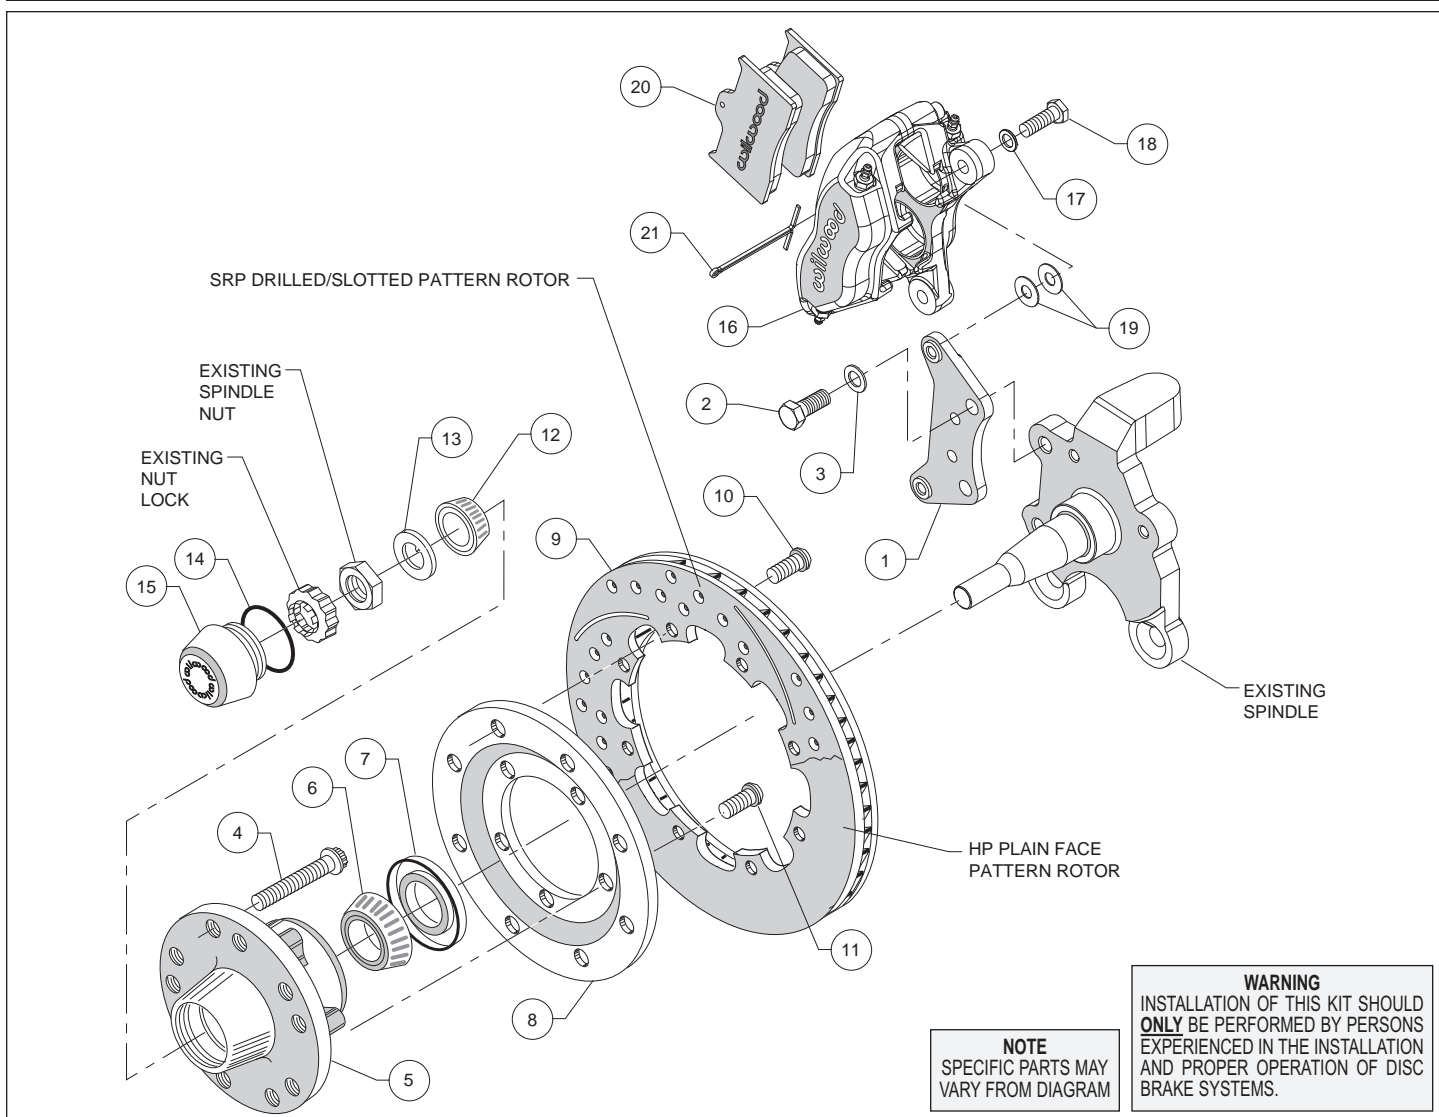
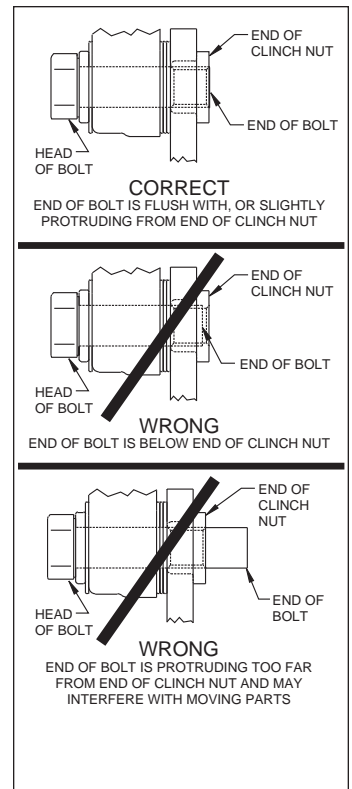

Figure 1. Typical Installation Configuration
Figure 3. Clinch Nut Engagement Diagram
**Assembly Instructions** (numbers in parenthesis refer to the parts list on the preceding page, and Figure 1): **CAUTION:** All mounting bolts must fully engage insert nuts. Be sure to check that all bolts are either flush or protruding through flanged side of clinch nut after shimming, Figure 3.
- Align caliper mounting bracket (1) with the corresponding holes, to the face of the spindle and attach using bolts (2) and washers (3), as shown in Figure 1 and Photo 1. Temporarily tighten the mounting bolts. Ensure that the flanged heads of the clinch nuts in the bracket are facing outboard, Photo 1. **NOTE:** The bracket must fit squarely against the mounting points on the spindle. Inspect for interference from casting irregularities, machining ridges, burrs, etc. Remove bolts one at a time, apply red Loctite® 271 to threads, and torque to 77 ft-lb.
- Orient the rotor (9) and the rotor adapter (8) as shown in Figure 1 and Photo 4. Attach the rotor to the adapter using bolts (10). Using an alternating sequence, apply red *Loctite*® 271 to the threads, and torque to 25 ft-lb.
- Mount the adapter/rotor assembly (8/9) to the hub (5) using bolts (11), as shown in Figure 1 and Photo 5. Using an alternating sequence, apply red *Loctite*® 271 to the threads, and torque to 45 ft-lb.
- Pack the small outer bearing cone (12) with high temperature disc brake bearing grease and install into hub (5). Slide the hub/rotor assembly onto the spindle. Secure using spindle washer (13) and OEM spindle nut, Photo 6. Adjust bearings per OEM specifications. Install saved OEM nut lock (if any) and a new cotter pin (not included).
- Screw dust cap (15) into hub (5), Photo 7. Friction created by the o-ring (14) on the dust cap keeps it from unscrewing. **NOTE:** The O.D. of the existing OEM spindle washer may be larger than the I.D. of the dust cap not allowing it to seat against the hub face. Therefore, use the spindle washer (13) supplied with the kit instead of the OEM washer.
- NOTE:** Please reference the caution statement at the beginning of the assembly instructions. Mount the caliper (16) onto the caliper mounting bracket (1) using bolts (18) and washers (17), as shown in Figure 1. Initially place two .035" thick shims (19) on each bolt between the caliper and the bracket, Photo 8. Temporarily tighten the mounting bolts and view the rotor (9) through the top opening of the caliper. The rotor should be centered in the caliper, Photo 9. If not, adjust by adding or subtracting shims between the bracket and the caliper. Always use the same amount of shims on each of the two mounting bolts. **NOTE:** The end of each bolt must be flush with or slightly protruding from the head of the clinch nut, as shown in Figure 3. If necessary place spare shims between washer (17) and caliper mounting ear to achieve the proper clinch nut engagement. Once the caliper alignment and clinch nut engagement are correct, remove the bolts one at a time, apply red *Loctite*® 271 to bolt threads, and torque to 40 ft-lb.